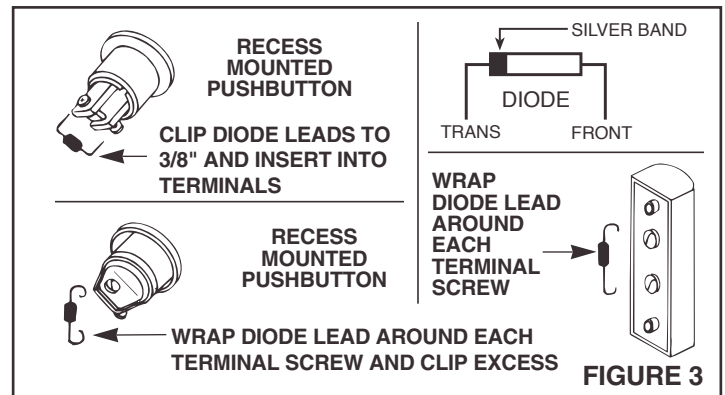

FIGURE 3
Front pushbutton must have diode (supplied) assembled across the screw terminals as shown in Figure 3.
2. **Refer to Figure 3.** Depending upon which type of pushbutton is being used, wire the diode to the two (2) terminals on the pushbutton.